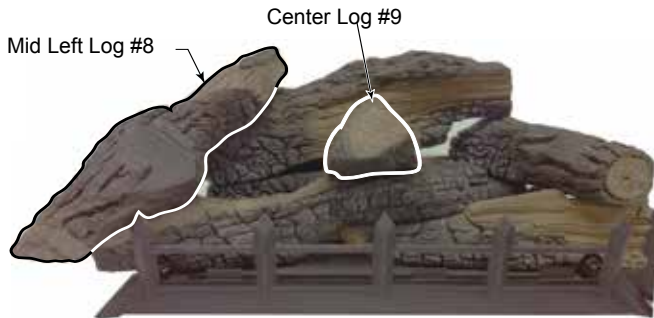

Figure 6
8. Place mid left log (#8) on mid rear log (#7) and front bottom log (#5) by placing notches on bottom of log onto locating blocks on log #7 and log #5. Figure 6
9. Place center log (#9) onto front bottom left log (#5) by placing notch on bottom of log #9 onto locating block on log #5. The flat triangle-shaped end of log #9 should be towards front with pointed end of log resting on bottom rear log (#1). Figure 6